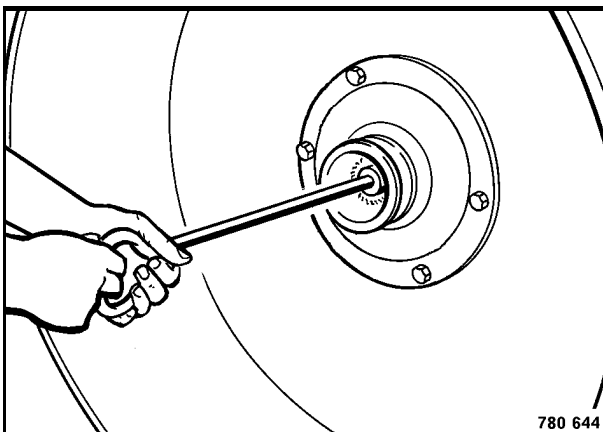

Fig. 10
14. Screw the eye bolt (Fig. 10) into the exciter shaft bore to measure the end float.